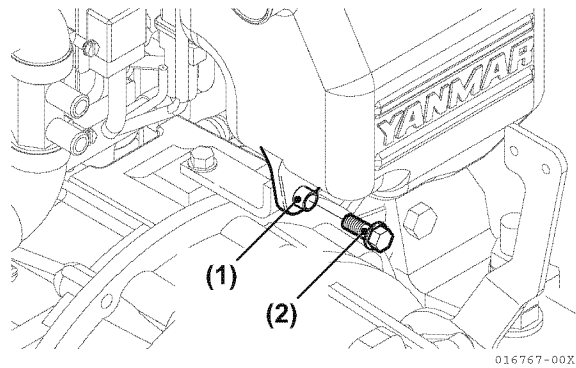

Figure 5-195
66. Insert the collar into the hole of silencer and fix to the bracket by bolt (**Figure 5-195**).